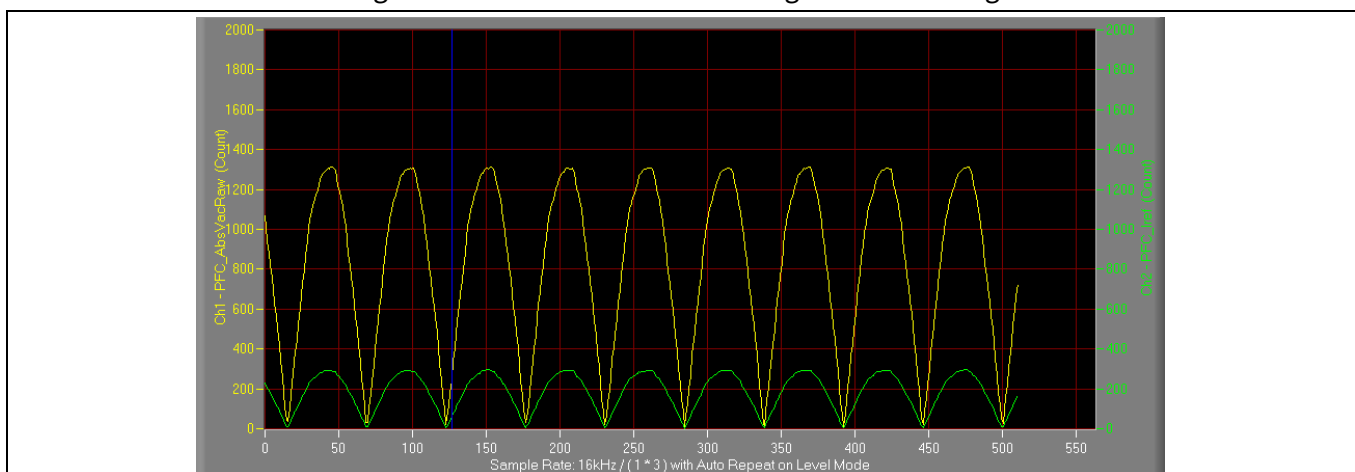

Figure 18 PFC_AbsVac & PFC_Iref
- If motor closed loop is tuned up, then the PFC can start when the motor is running. Starting the “PFC_AbsVac & PFC_Iref” trace with “Auto Repeat on Level” (see Figure 18) will show the PFC performance. The default PFC DC bus target value is set in MCEWizard “Target DC Bus Voltage Initialization.”